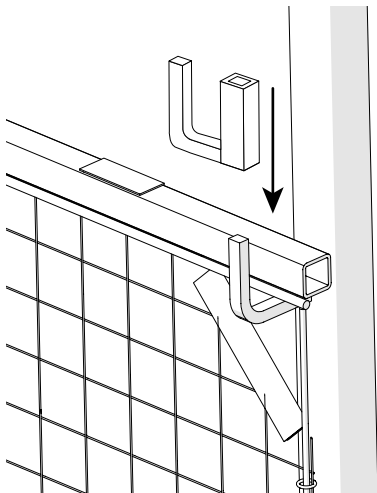

Fig. 2
2. Place the Corner Fence Bracket over the handrail holder after the fence has been positioned. The handrail holder must be on the inside of the fence rails. Fig 2.